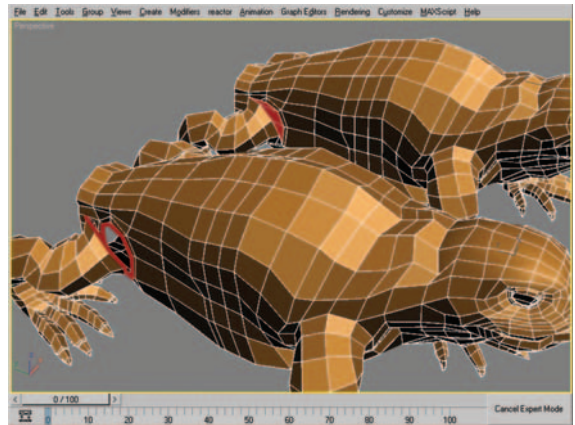

Figure 9.86 Border selection (two borders; front) and result of bridging the selection (rear).
49. At the Border subobject level, select the two borders highlighted in Figure 9.86 (left) and use Bridge to create new polygons that span the opening (Figure 9.86, right). This results in a new unwanted row of polygons.